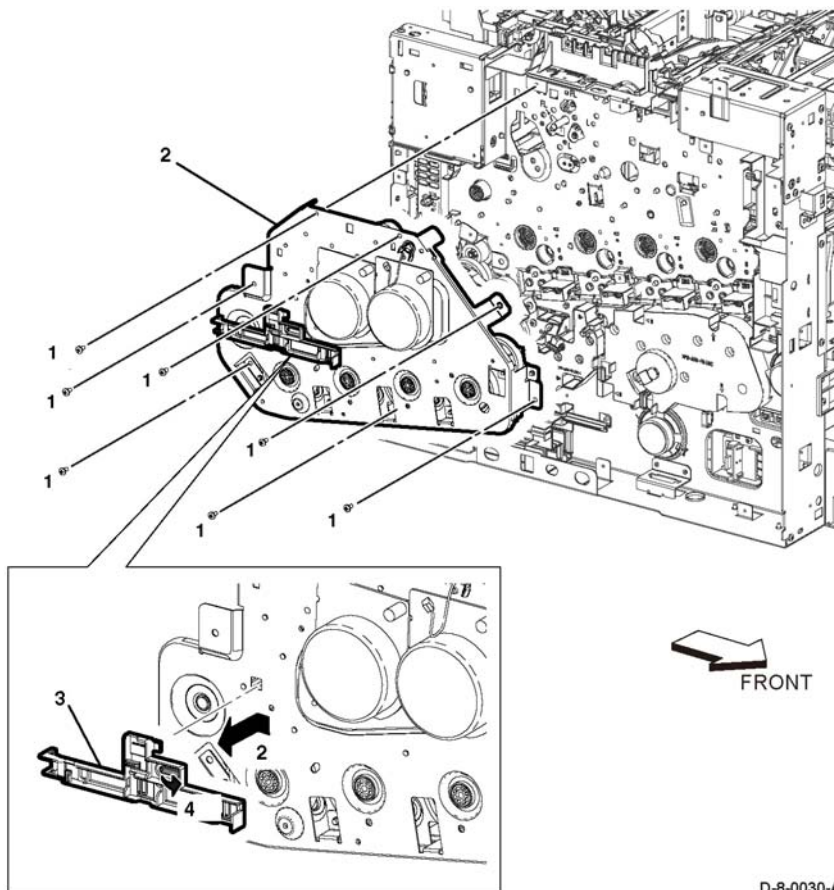

Figure 4 Main H drive assembly removal
31. Remove the main H drive assembly, Figure 4:
- a. Remove seven screws (1), then remove the main H drive assembly (2) with the rear interlock harness guide attached (3).
- b. Release the hook (4) to remove the rear interlock harness guide (3) from the main H drive assembly (2).